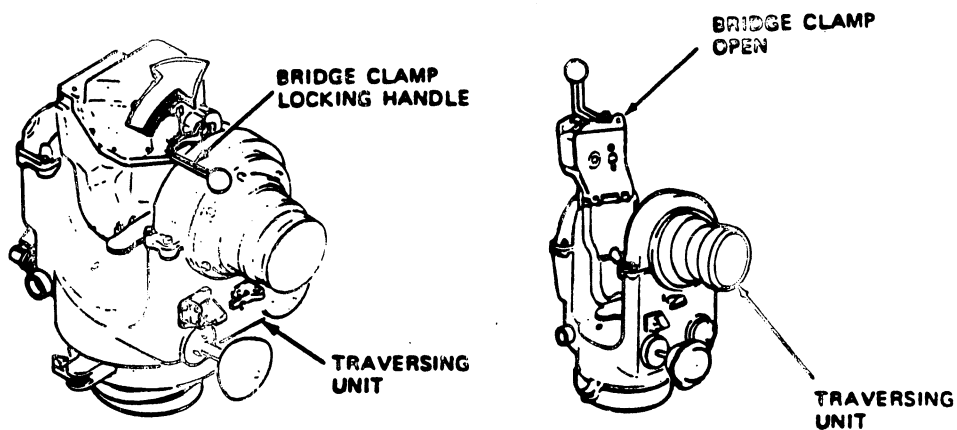

Fig 4-3. Bridge clamp locking handle/bridge clamp (traversing unit).
Step 3. Push the bridge clamp locking handle on the traversing unit upward and forward and open the bridge clamp (fig 4-3).